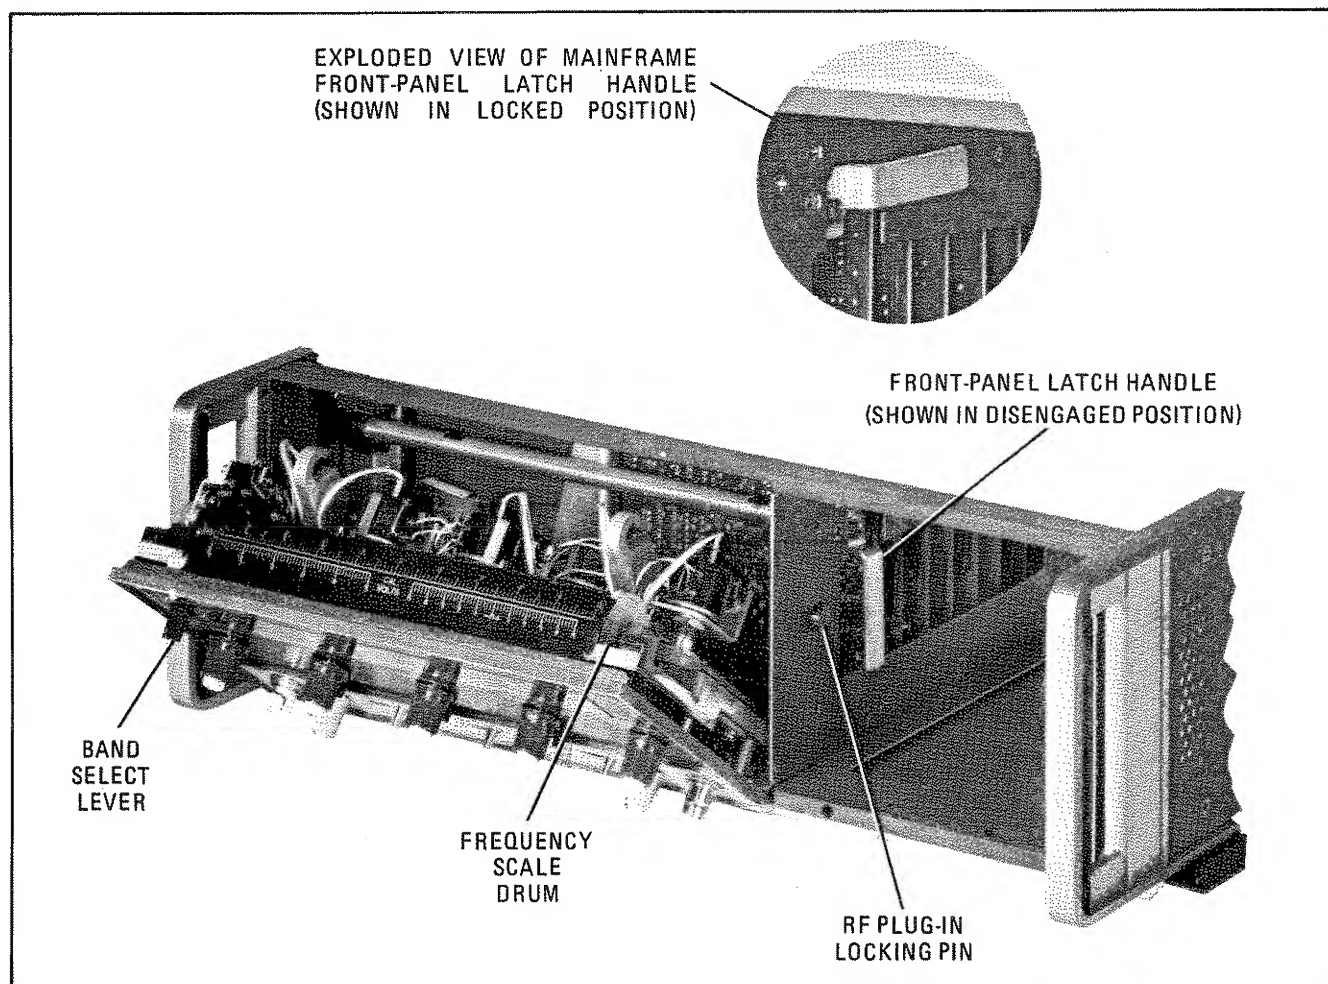

Figure 2-1. Location of Mainframe Parts Pertinent to Frequency Scale and RF Plug-in Installation
- a. Disengage mainframe front-panel latch handle, shown in Figure 2-1, by pushing downward on handle while pushing inward lightly on top of front panel.
- c. Depress mainframe front-panel BAND select lever, shown in Figure 2-1, to rotate frequency scale drum until desired scale position is accessible.
- f. Return front panel to upright (closed) position and, while pushing inward lightly on top of front panel, re-engage front-panel latch handle by pushing it upward to lock position as shown in Figure 2-1, exploded view.
- c. Slide RF Plug-in into mainframe towards rear of compartment. RF Plug-in latch handle will engage a locking pin, shown in Figure 2-1, inside mainframe and exposed portion of latch handle will start to move downward.
- b. When exposed portion of latch handle is in a position perpendicular to RF Plug-in front panel, it is disengaged from locking pin (Figure 2-1) and RF Plug-in may be removed by pulling forward on latch handle.